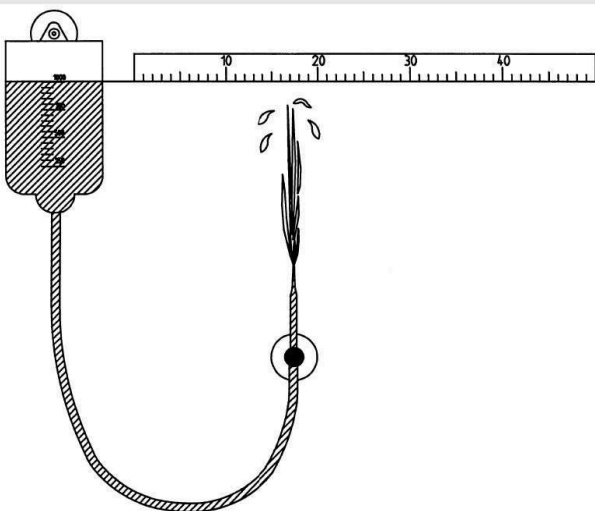

Fig. 2
- Place the scale on the board at the height of the water level (Fig. 2).